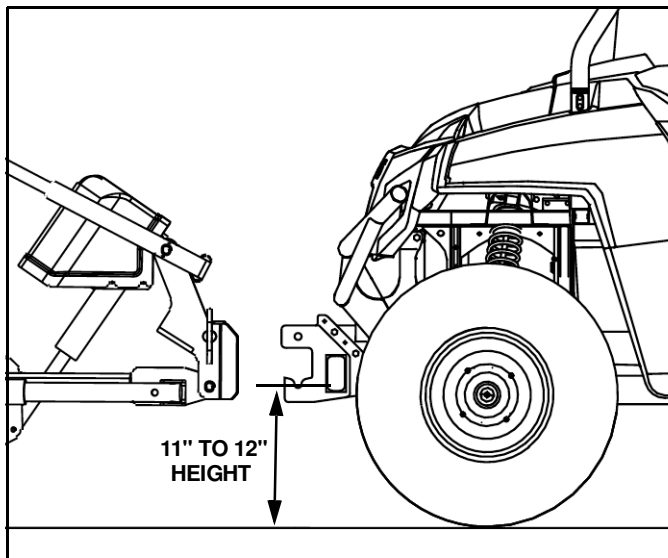

Figure 11
16. Position the UTV Mount (#3) to the inside of the Mounting Bracket (#2). Adjust the UTV Mount height between the Side Brackets so that the center of the lower pin slots is 11 to 12 inches off the ground. (See Figure 11.)